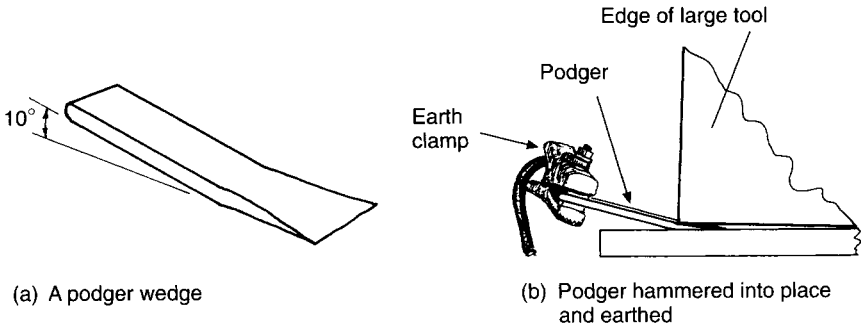

Fig. 6.37
- A 'podger' which is a shop-made earthing wedge, made to hammer under the bases of larger television sized tools that have no easy earthing points. The wedge is made from a piece of mild steel bar $1'' \times \frac{1}{4}'' \times 6''$ (25 mm \times 6 mm \times 150 mm) long, flattened at one end; see Fig. 6.37.